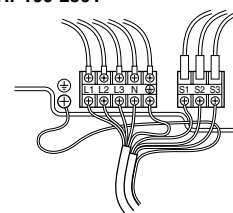

Fig. 6-2
### 6.1. Outdoor unit (Fig. 6-1, Fig. 6-2)
- ① Remove the service panel.
- ② Wire the cables referring to the Fig. 6-1 and the Fig. 6-2.